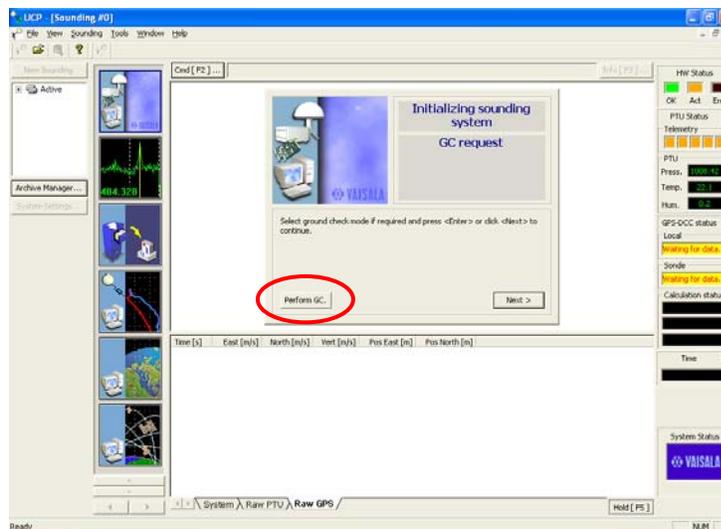

Figure 8
- 10) The system will go through initialization process. Click on “Perform GC” when the following screen (Figure 8) appears.